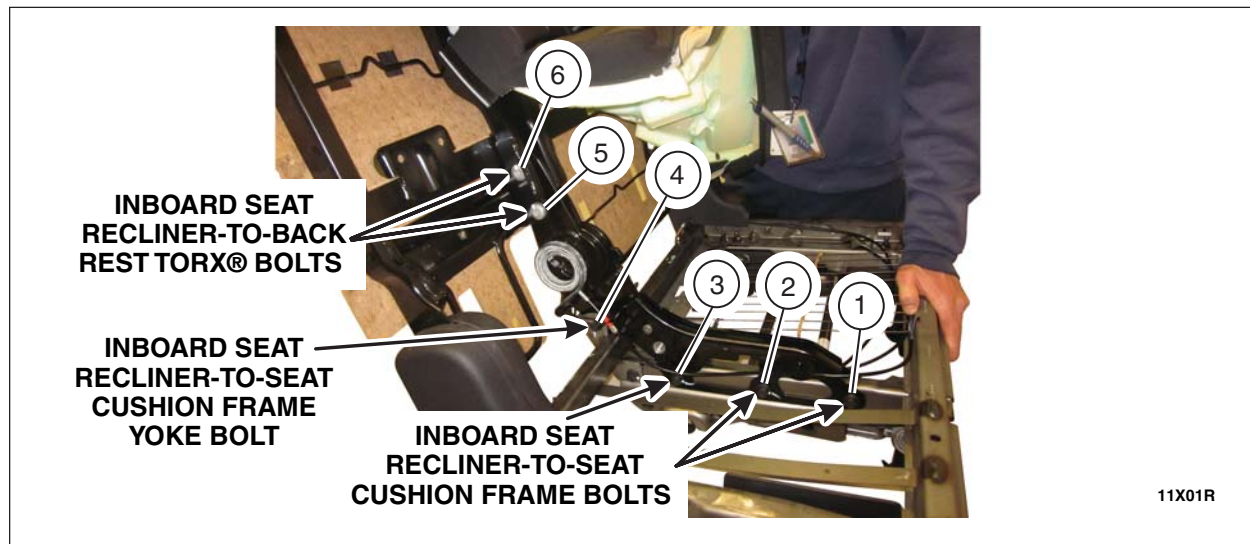

FIGURE 16
40. Tighten the 3 inboard seat recliner-to-seat cushion frame bolts and the inboard seat recliner-to-seat cushion frame yoke bolt in the sequence shown. See Figure 16.
41. Tighten the 2 inboard seat recliner-to-seat backrest Torx® bolts in the sequence shown. See Figure 16.